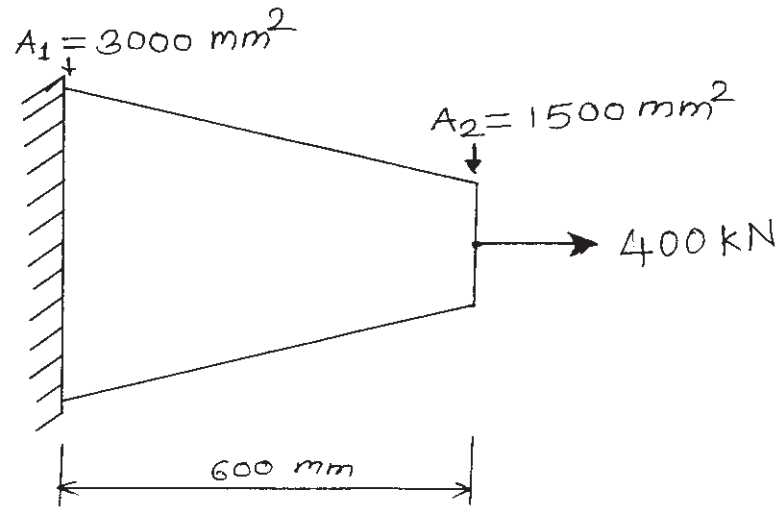

Figure 2.1
- b) Determine the extension of the bar as shown in figure 2.1. Consider two elements and $E=2 \times 10^5 \text{ N/mm}^2$. [8]